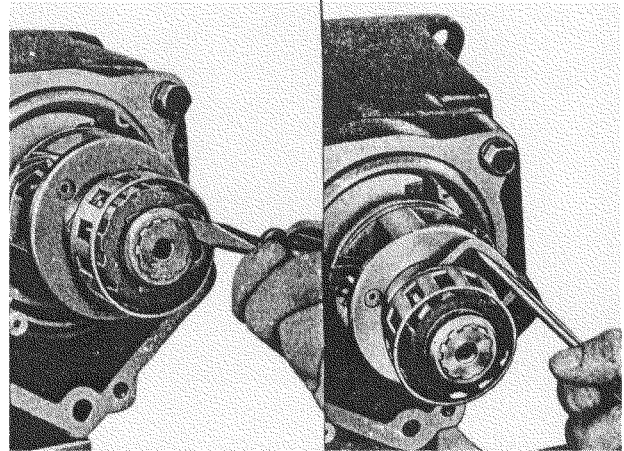

Fig. 34—Removing Clutch Cam Retaining Clips
2. Pull "U" clips at each end of clutch cam (fig. 34) and slide the cam and roller retainer from pinion cage hub and transmission mainshaft. If roller retainer or cam is to be replaced separate these pieces by pulling retainer out until the hooked ends of spring can be pulled out of holes in cam.